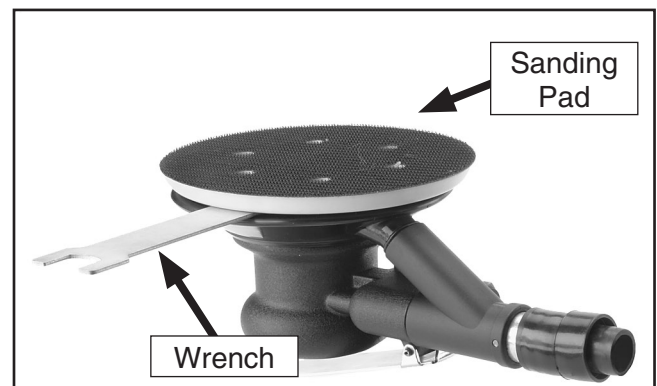

Figure 6. Wrench inserted onto spindle.
- Insert the included wrench onto the spindle as shown in **Figure 6**.